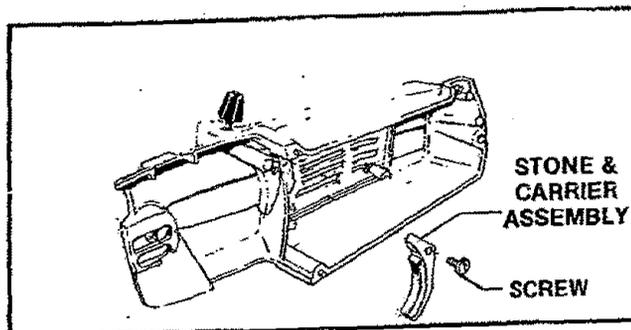

Figure 21
2. Remove screw holding Stone and Carrier Assembly. Figure 21.